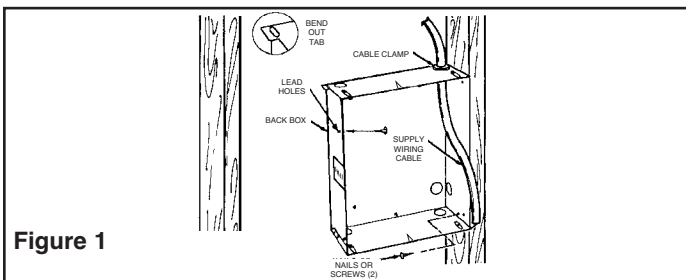

Figure 1
1. Determine which side of the back box is to be mounted against a stud and bend the tabs at the rear corners out 90 degrees so that the back box will be square with the stud after installation. (See Figure 1).
3. Position back box against side of studs and secure using nails or screws as shown in Figure 1.
NOTE: Lead holes for a #8 sheet metal screw have been provided in the sides of the back box. After the finished wall or ceiling has been put up, drive a # 8(m4) sheet metal screw (recommended 1" long) through the side of the box not mounted to the stud. This will prevent the back box from pulling out when installing the heater assembly. (See Figure 1)